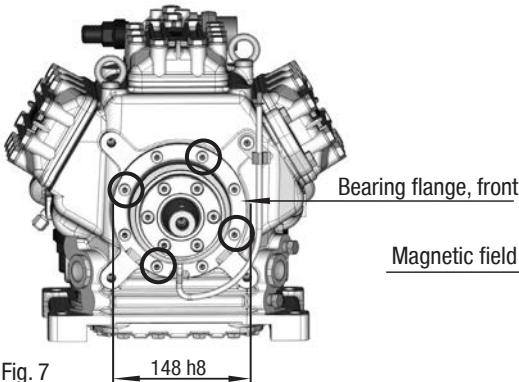

Fig. 7
- To absorb the magnetic field of the electromagnetic clutch, the front bearing flange has a snug fit 148 h8 (see Fig. 7).
- To connect the magnetic field, loosen the 4 cheese head screws M8 on the bearing flange (see Fig. 7).